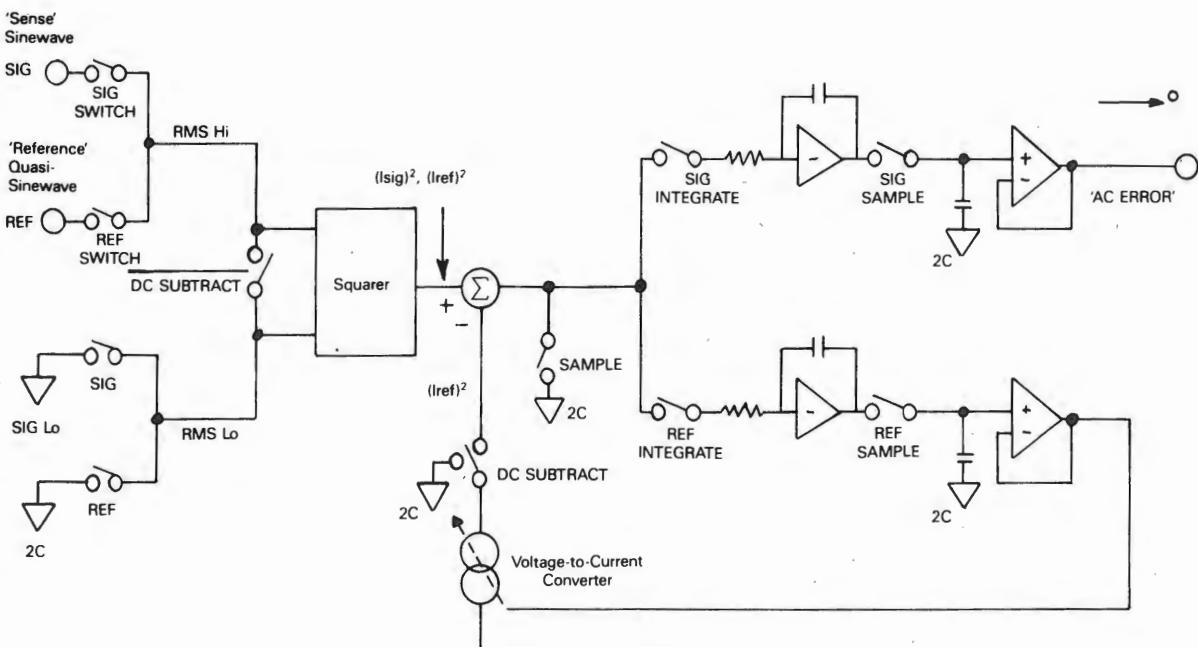

FIG. 9.10 SINE/QUASI-SINE COMPARATOR - BLOCK DIAGRAM
9.9.3 METHOD OF COMPARISON (Figs. 9.10 and 9.11)
9.9.3.1 The Comparator Sequence (Figs. 9.10 and 9.11)
The table in Fig. 9.11 shows the conduction patterns of the switches in the block diagram of Fig. 9.10, within a complete sequence cycle. The cycle is broadly divided into two similar patterns ('REF' and 'SIG'), each occupying five quasi-sinewave periods. The cycle repeats continuously.